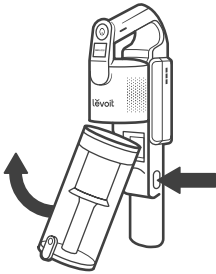

Figure 3.5
1. Press the Dust Bin Release Button to remove the dust bin. **[Figure 3.5]**